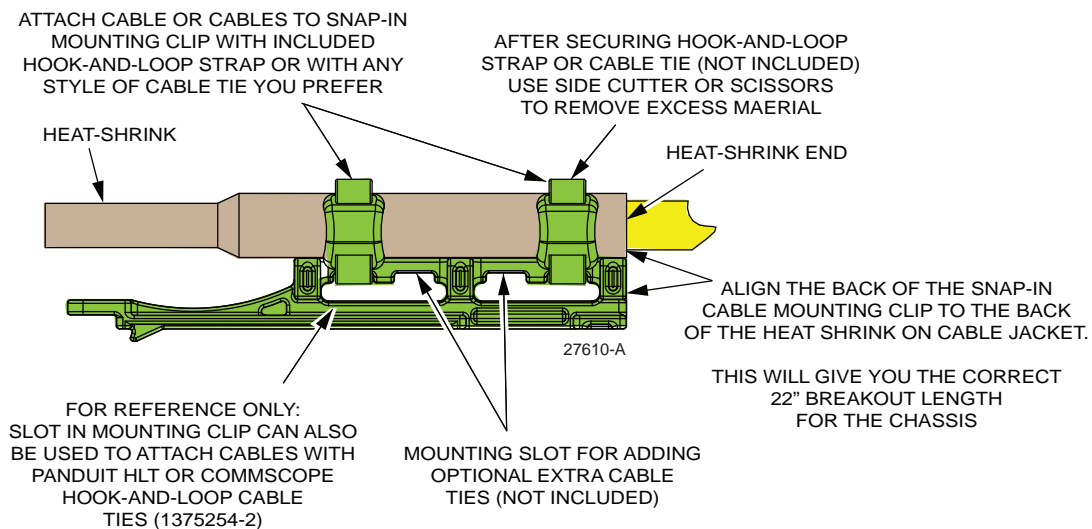

Figure 32. Cable Management Clip Detailed View
4. Secure the cable jacket to the clip with the hook-and-loop straps or cable ties as follows (refer to Figure 32):
Note: Ensure that the cable breakout is not retained by the hook-and-loop strap or cable tie, referring to the guidelines provided in Figure 32 and in the installation drawing provided with the cable assembly.